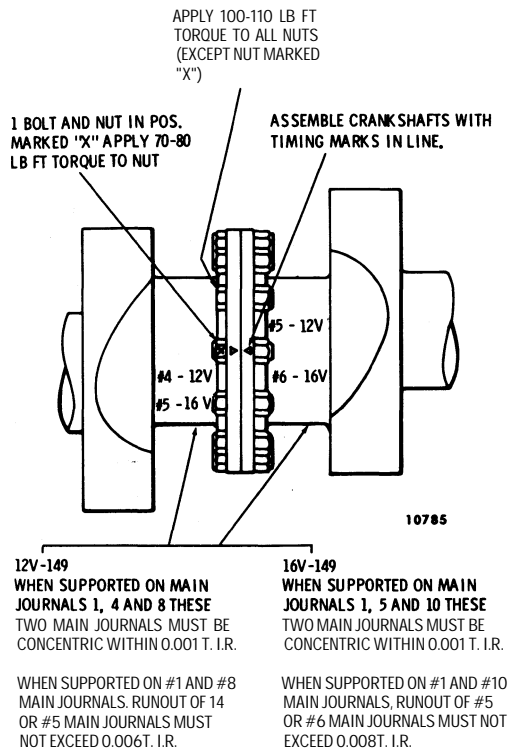

Fig. 8 - Crankshaft Assembly Instructions
6. Position a dial indicator on each of the two journals (No. 4 and No. 5 on 12V or No. 5 and No. 6 on 16 V). Then, check the journal runout (Fig. 8) on each crankshaft half with one end of the cylinder block elevated to pre-load the thrust area.
7. Rotate the crankshaft halves until the crankshaft timing marks are in alignment on the two crankshaft end flanges (Fig. 8). Coat the intermediate flange bolt threads with International Compound No. 2 (or equivalent). Wipe excess compound from the bolt threads and install the 7/16" bolts in the crankshaft.